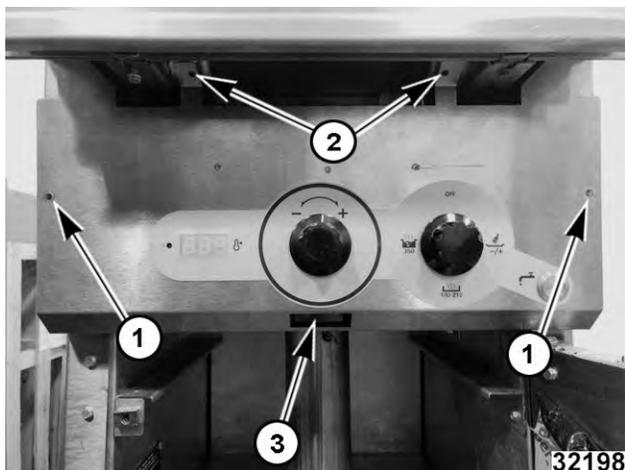

Fig. 1
2. Remove side (1), top (2) and inner (3) mounting screws (Fig. 1).